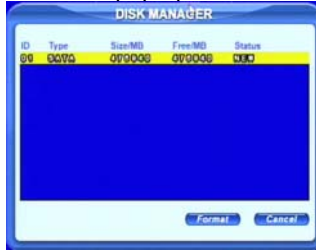

Fig 5.1 Disk Manager
STEP1 Enter TOOLS Configuration, refer to 4.2.10 Tools Configuration. Press Disk Manager, a window will pop up shown as Fig 5.1 Disk Manager.
The DVR only supports USB update. Firmware updates, when written, will be available from Q-See. Users can check USB information in disk manager, please refer to Fig 5.1 Disk Manager.